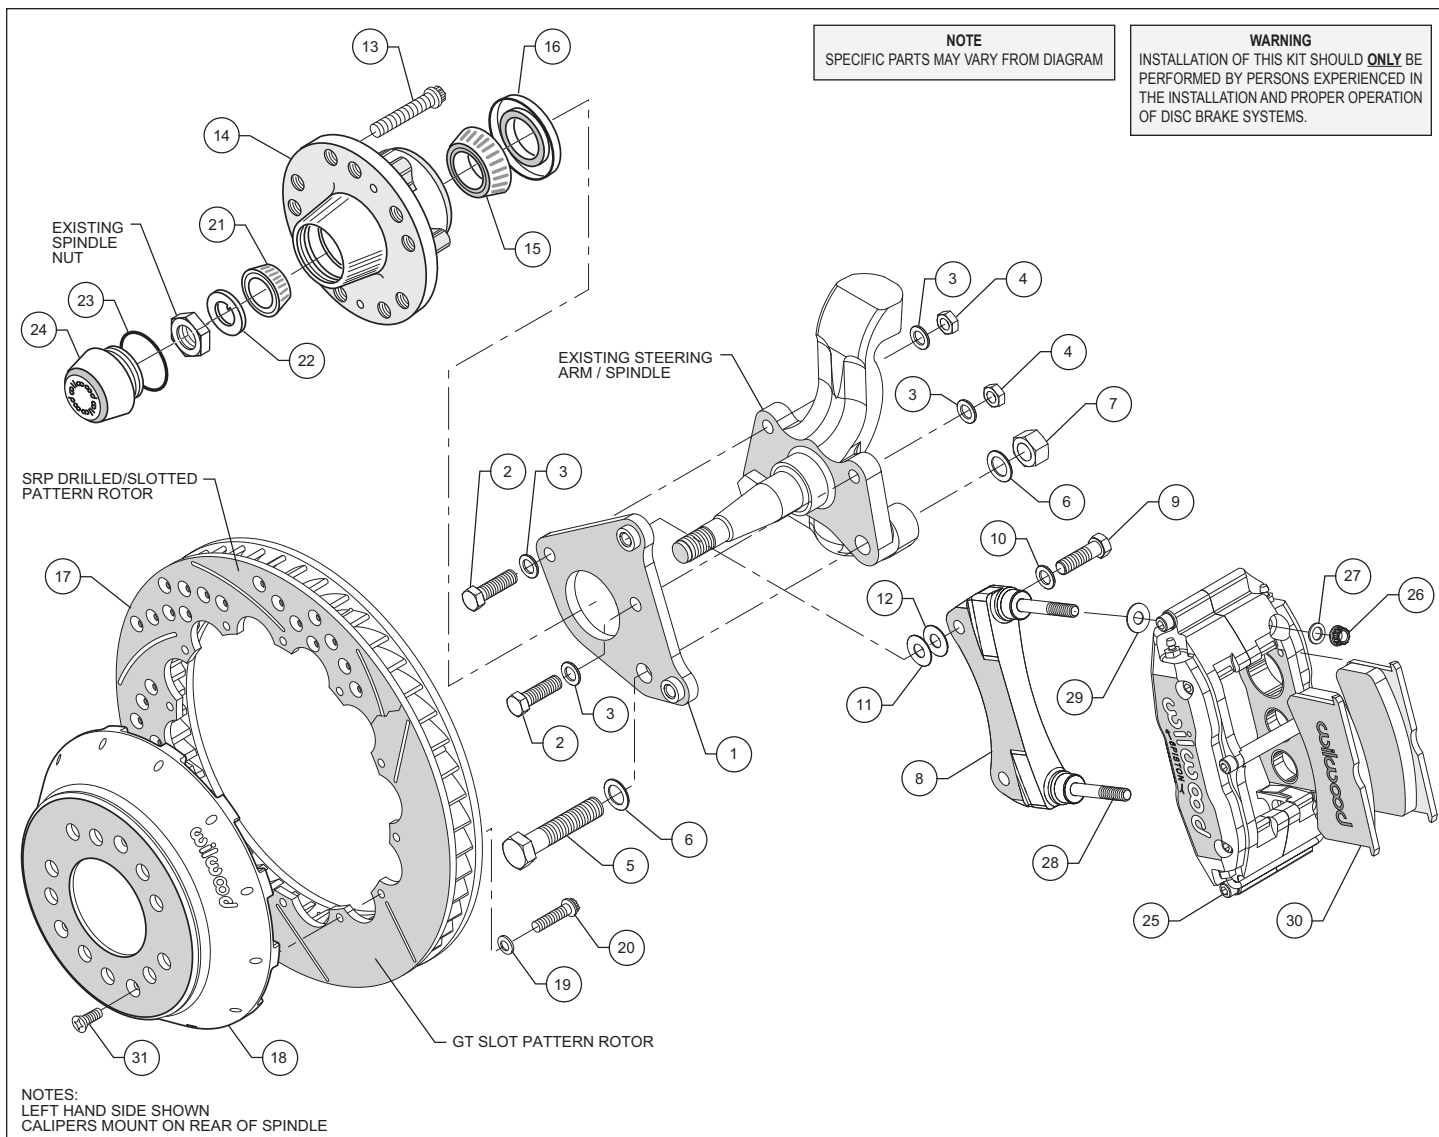
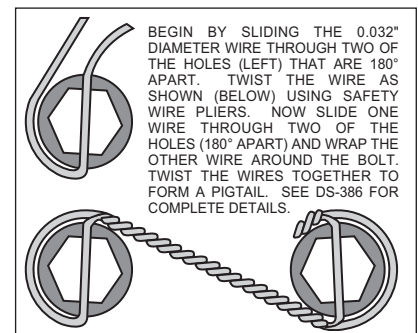

Figure 1. Typical Installation Configuration
Figure 3. Safety Wire Diagram
- Apply red *Loctite*® 271 to bolt threads (2 and 5) before assembly of the flat caliper bracket (1) to backing plate face of spindle. Install bolt (5) and washer (6) through caliper bracket (1), spindle face and the steering arm. Install another washer (6) and lock nut (7) on the rear side. Install two bolts (2) with washer (3) through caliper bracket (1), spindle face and the steering arm. Install another washer (3) and lock nut (4) on the rear side. Torque two bolts (2) to 47 ft-lb. Torque bolt (5) to 140 ft-lb. **NOTE:** Be sure the heads of the caliper bracket (1) insert nuts are facing outward toward the wheel. Reference Figure 1 as necessary.
- The radial caliper mounting bracket assembly (8) should be installed first with clean, dry threads on the mounting bolts. Install the bracket on the inboard side of the flat caliper mounting bracket (1) by sliding bolt (9) through flat washer (10), through the mounting hole in the bracket (8) and into the flat bracket (1) insert nuts. Initially place two shim washers (12) between the two brackets (1 and 8) (see figure 1). The radial bracket (8) must tighten squarely against the inboard side of the flat mounting bracket (1). Later, after the caliper, pad, and rotor alignment has been checked, and any necessary shims have been put in place, the mount bolts should be coated with red *Loctite*® 271 and torqued to 47 ft-lbs.
- Install five new wheel studs (13) into the hub (14). Torque to 77 ft-lb. **NOTE:** There are two five lug patterns in the hub (5 x 4.00 and 5 x 4.50). Make sure of the correct hole pattern for the correct wheel application before installing studs into hub.
- Pack the large inner bearing cone (16) with high temperature disc brake bearing grease (available from your local auto parts store) and install into the backside of the hub (14).
- Install the grease seal (16) by pressing into the backside of the hub (14).
- With the larger I.D. side of the rotor (17) facing away from the hat (18), bolt rotor (17) to hat (18) through the backside of the rotor using washers (19) and bolts (20). Torque bolts (20) in an alternating sequence to 85 **in-lb**. Safety wire bolts (20) using standard 0.032 inch diameter stainless steel safety wire as shown in Figure 3. Please refer to Wilwood's data sheet DS-386 (available at www.wilwood.com/Pdf/DataSheets/ds386.pdf) for complete safety wire installation instructions.
- Pack the small outer bearing cone (21) with high temperature disc brake bearing grease. Lightly coat the spindle bearing surfaces with bearing grease. Slide the hub assembly (13, 14, 15 and 16) with outer bearing cone (21) onto the spindle. Secure using spindle washer (22), existing adjusting nut and nut locking device.